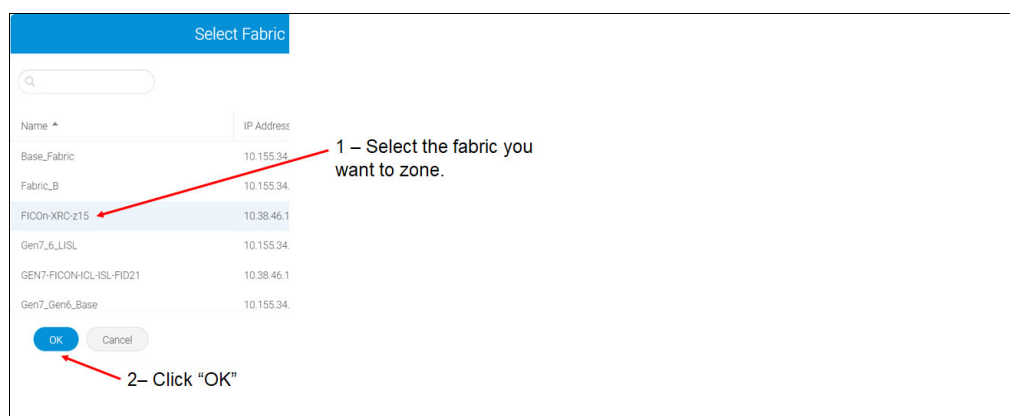

Figure 6-20 Selecting the fabric to zone
- Select the fabric (see Figure 6-20). Zoning is applied to a fabric, *not* an individual switch. Because most FICON fabrics are single switch fabrics, this distinction is subtle; however, you are looking for the fabric name, not the switch name, when zoning. In this example, FICOn-XRC-z15 is the name of the fabric created.